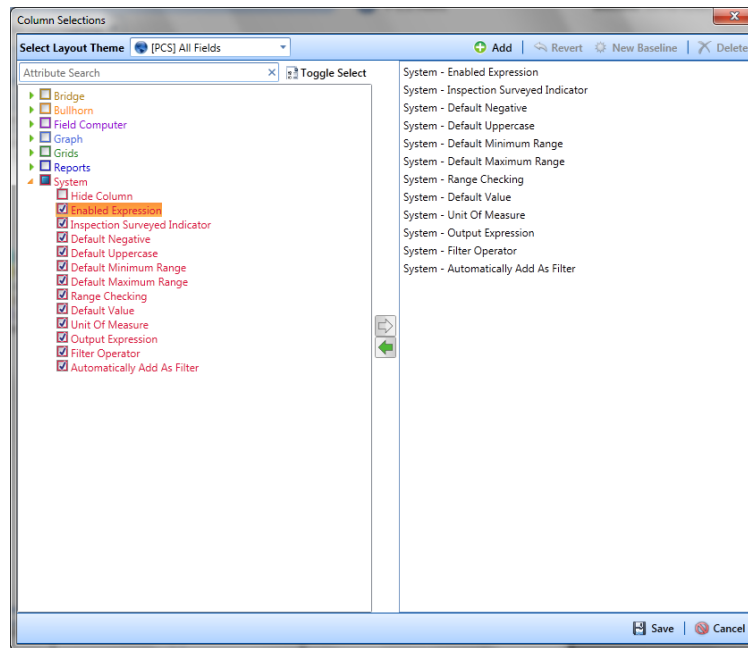

Figure 2-21. Column Selections
- 8 Choose which fields to include in the layout theme. Select a field in the left pane and then click the top arrow button  to move the field to the right pane. Repeat this step as needed (Figure 2-21, page 51).
- a Click  **Customize** to open the *Column Selections* dialog box (Figure 2-21, page 51).